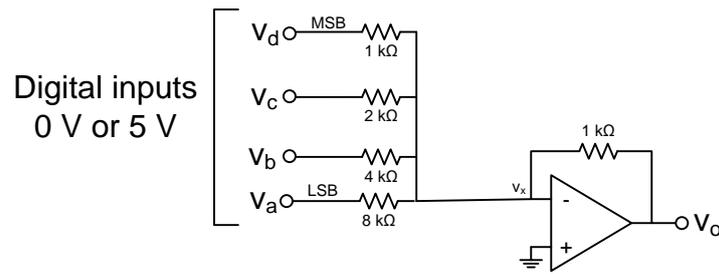

Figure 3: DA converter using summing op-amp.
- (5p) (e) A summing DA converter is shown in Figure 3. Which binary input has been applied to the DA converter if it has an output voltage v_o of -3.1V ?